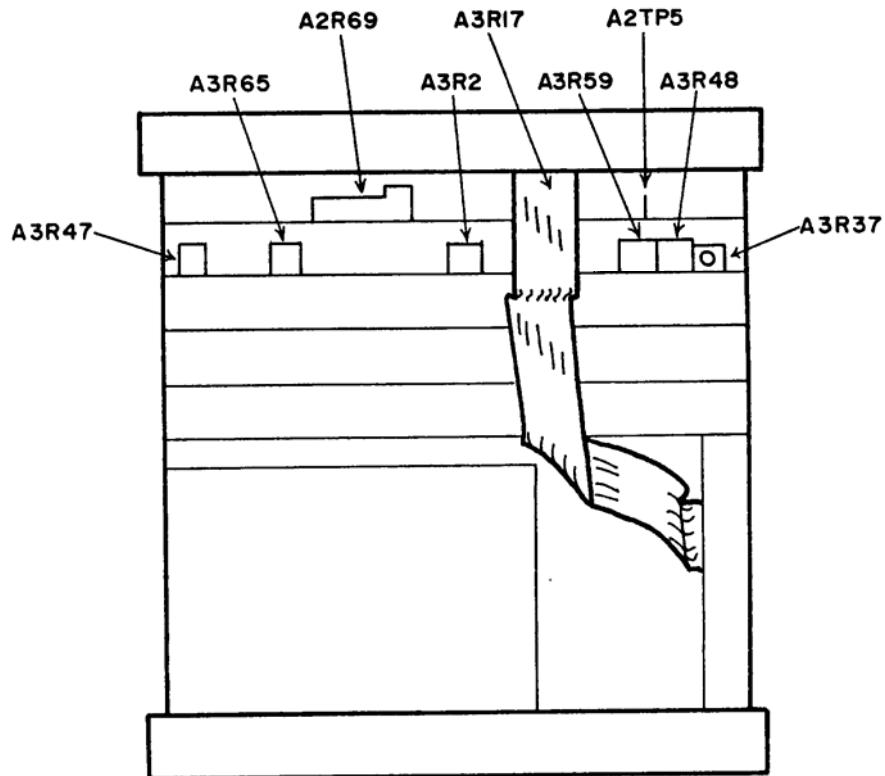

Figure 1. Models 436A and 436AOPT9/22 - adjustment locations.
(1) Set range calibrator **RANGE** switch to **100 mW** and **FUNCTION** switch to **CALIBRATE**. Verify that TI autoranges to 100 mW range, then set the **RANGE HOLD** pushbutton to on (in).
(2) Set range calibrator **FUNCTION** switch to **STANDBY**.
(3) Adjust **DC OFF** potentiometer A3R2 (fig. 1) for a digital readout of **00.0** with a blinking minus sign (R).
(4) Set **RANGE HOLD** pushbutton to off (out).
(5) Verify that TI autoranges to 10  $\mu\text{W}$  range.
(6) Press and hold **SENSOR ZERO** pushbutton and adjust **ZERO OFF** potentiometer A3R47 (fig. 1) until digital readout indicates **0.00** with blinking minus sign (R).
(7) Set range calibrator **FUNCTION** switch to **CALIBRATE** and **RANGE** switch to **100  $\mu\text{W}$** .
(8) Adjust TI front-panel **CAL ADJ** control until digital readout indicates **100  $\mu\text{W}$** .
(9) Press and hold **SENSOR ZERO** pushbutton and adjust **BAL** potentiometer A3R65 (fig. 1) until display readout indicates **60.0  $\mu\text{W}$**  (R).
(10) Set range calibrator **FUNCTION** switch to **STANDBY**. Press **SENSOR ZERO** pushbutton and wait for digital readout to stabilize.
(11) Press **SENSOR ZERO** pushbutton and wait for display readout to stabilize. Release **SENSOR ZERO** pushbutton and wait for **ZERO** light to extinguish.